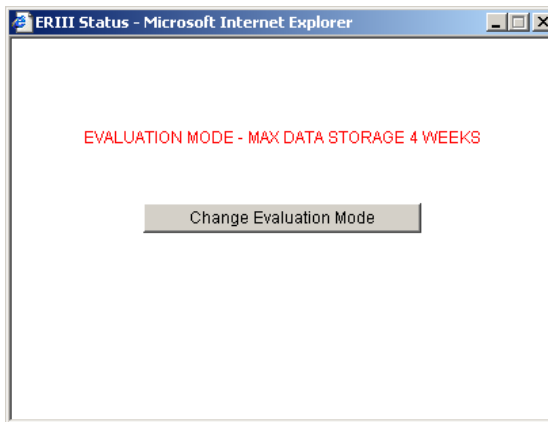

Fig. A-1 ER Status pop-up box
- in the ER Status pop-up box (see Fig. A-1), click **Change Evaluation Mode**